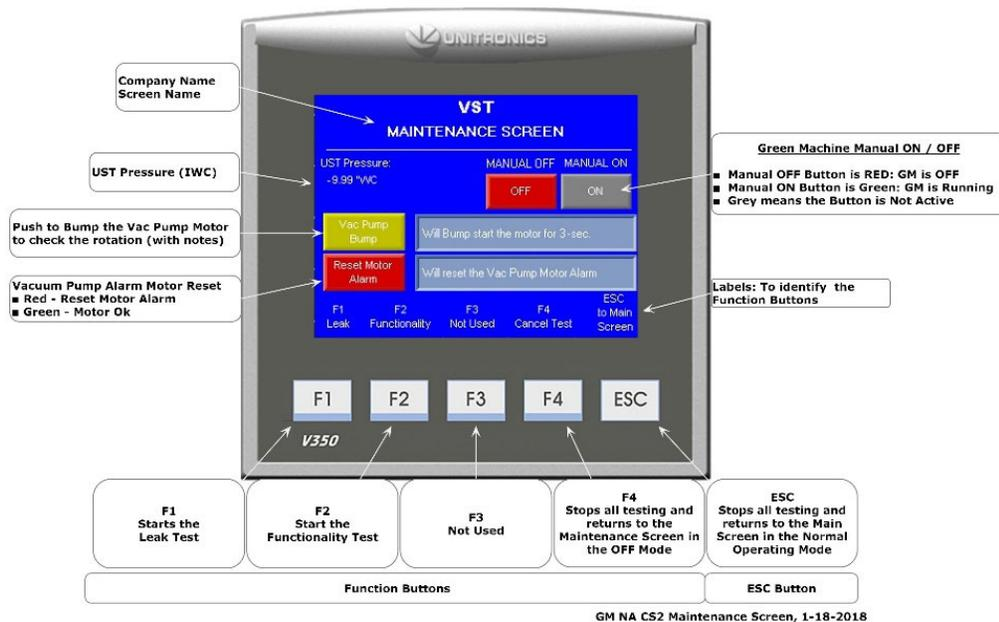

Figure 7-3: Maintenance Screen
1. At the VST Control Panel, make sure the Maintenance Screen is showing on the PLC. **See Figure 7-3.** (The GREEN MACHINE is now in the Manual OFF mode and will not operate.)